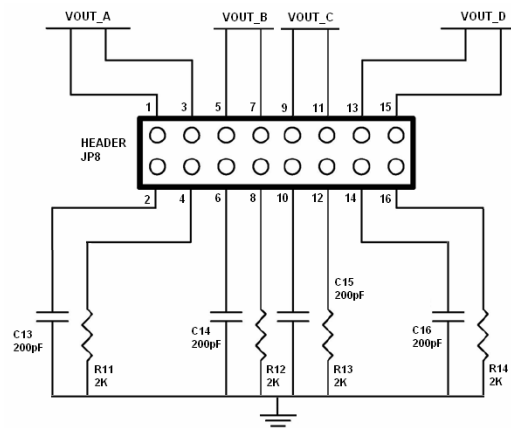

Figure 4: JP8 Load Select Header
8. Select the desired output load by adding jumpers to headers JP8/JP16 for outputs A-D and JP2/JP11 for outputs E-H. See *Figure 4* for the configuration of header JP8. Refer to *table 1* in Section 4.0 or the evaluation board schematic (*Figure 7*) for all configurations.
The analog output of this evaluation board is available DC coupled at the header JP7/J15 and JP1/J9. For loaded outputs refer to *Figure 4* and *table 1*.